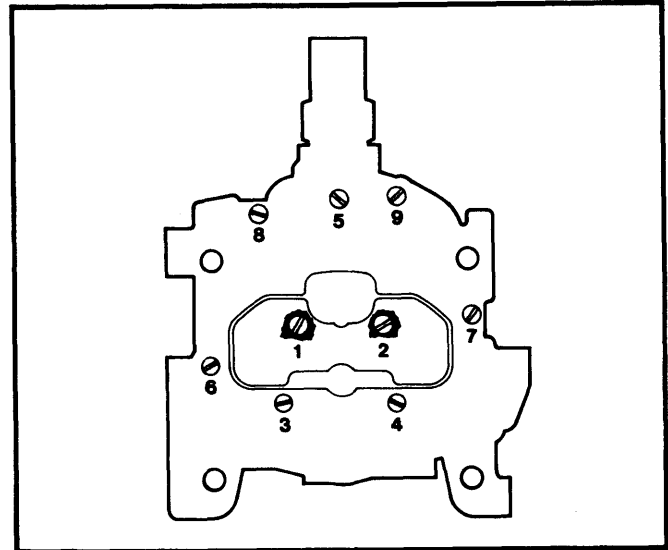

Fig. 10 Air Horn Screw Tightening Sequence
6) Install air horn screws and tighten them evenly, securely and in order shown in Fig. 10.